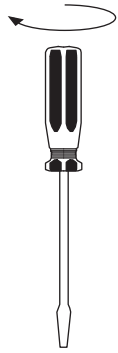

Figure 14 Installing the mounting post (5975T LTM-GC/MSD)
- **5975T LTM-GC/MSD.** Install into the inlet mounting bracket. The post must be turned all the way down (**Figure 14**).